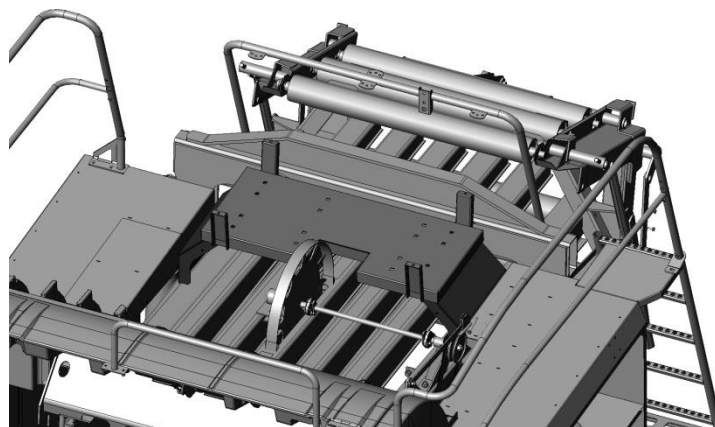

Figure 3
3. Install the tank saddle (001-6707N) on top of the saddle legs. Figure 3
4. Secure the tank saddle to the saddle legs using eight (four per side) 1/2" x 1-3/4" carriage bolts, flat washers, lock washers, and hex nuts. Use the outside set of holes for four foot wide balers and the inside set of holes for three foot wide balers. Figure 3